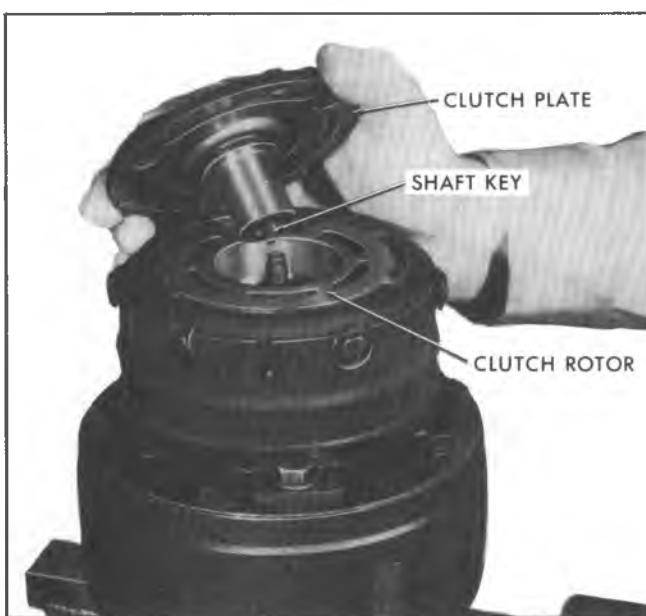

Fig. 71--Installing Shaft Key
1. Install shaft key into hub key groove (Fig. 71). Allow key to project approximately  $3/16$ " out of keyway. Shaft key is curved slightly to provide an interference fit in shaft key groove, to permit key projection without falling out.